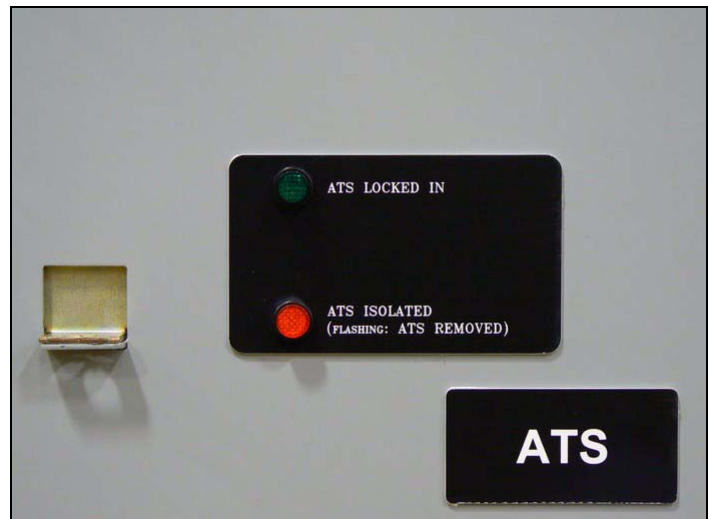

Figure 34. Rack-in Lights.
Close and latch bottom ATS door. The Bypass top door is already closed and latched. Using a 3/8-inch square drive ratchet with extension, which is not provided, insert into the latch hole through door and turn clockwise. If the latch door is not opened, remove the key from top door by turning the key counterclockwise and insert it in the bottom door slot and turn to open latch opening. When the unit is switched to Bypass mode, the key is now retainable for one (1) minute. If the key is not removed within one(1) minute, simply go back to Auto and then slowly back to the Bypass mode. Continue levering the contactor into its different positions using a clockwise ratcheting motion (Figure 33). The "ATS Isolated" light will go off as shown in Figure 34. These lights are also on the top door and are redundant. Continue until the "ATS Locked" light comes on. Unit is now fully racked in on the stabs. Do not exceed 25 ft lb (33.9 Nm) of torque or the levering mechanism may be damaged. Return the key to the Bypass door and turn clockwise. The Kirk-Key must be returned and turned clockwise in the upper lock after closing the draw-out opening or the unit will not go back to the Auto mode. The unit can now be put in the Auto position if desired, (see Section 5 "Operation of the Bypass Isolation Switch").
Place the switch in its Bypass position (see Section 5 -"Operation of the Bypass Isolation Switch"). After confirming that the "Transfer to Bypass" light is on, turn the key counterclockwise and remove it. Insert the key in the bottom door slot and turn it to open the latch. When the unit is switched to Bypass mode, the key is now retainable for one (1) minute. If the key is not removed within one (1) minute, simply go back to Auto and then slowly back to the Bypass mode. Using a 3/8-in. square drive and ratchet with extension, which is not provided, insert the extension into latch hole through door and turn counter clockwise (see Figure 33). Continue levering the contactor into its different positions using a counterclockwise ratcheting motion. The "ATS Locked" light will go off. Continue until the "ATS Isolated" light comes on (see Figure 34). The unit is now fully isolated. The unit is still connected (secondary connector) to the control for testing but not connected to the S1 or S2 source power. The unit can now be tested (see Section 5 "Test-Manual Switch Operation.").